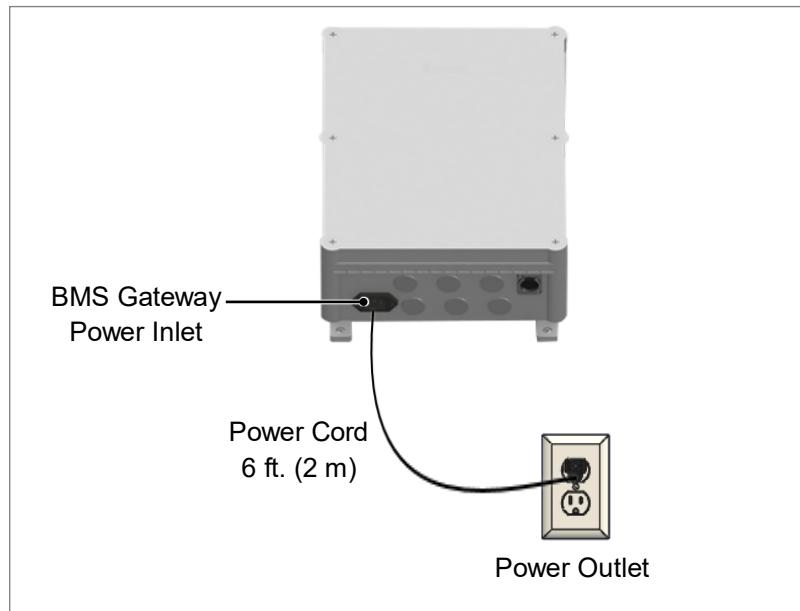

Fig 25. Connecting Power Cord from BMS Gateway to Power Outlet
1. Connect one end of the supplied 6 ft. (2 m) power cord to the power inlet of the BMS (Fig 25).
2. Connect the other end of the power cord to a standard three-prong 120V AC, 60 Hz properly grounded wall outlet (Fig 25).